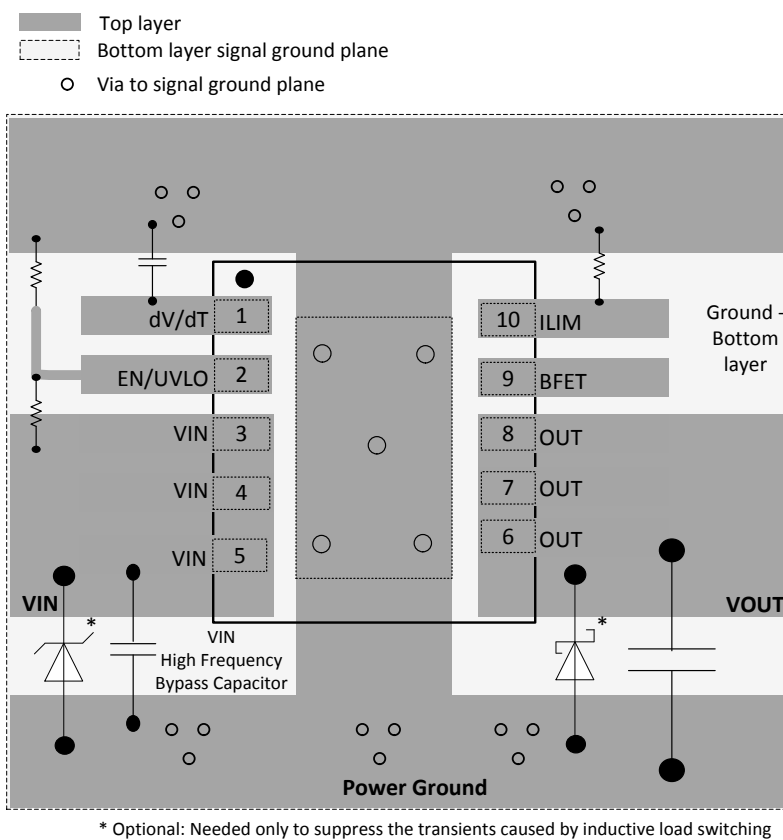

Figure 43. Layout Example
- The optimum placement of decoupling capacitor is closest to the IN and GND terminals of the device. Care must be taken to minimize the loop area formed by the bypass-capacitor connection, the IN terminal, and the GND terminal of the IC. See Figure 43 for a PCB layout example.